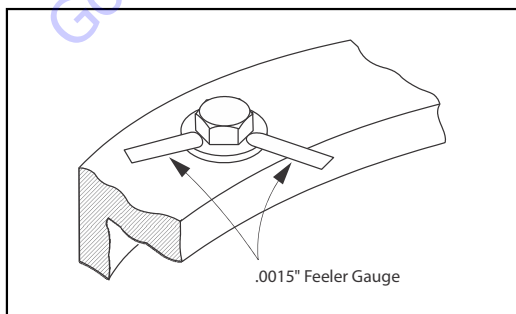

Figure 3-10. Swing Bearing Bolt Feeler Gauge Check
- b. At the positions indicated on (See Figure 3-10.), try and insert the 0.0015 inch (0.0381 mm) feeler gauge between the bolt head and hardened washer at the arrow indicated position.
- b. Try and insert the 0.0015" feeler gauge between bolt head and hardened washer at position shown in (See Figure 3-10.).
- d. Try and insert the 0.0015" feeler gauge between bolt head and hardened washer at position shown in (See Figure 3-10.).